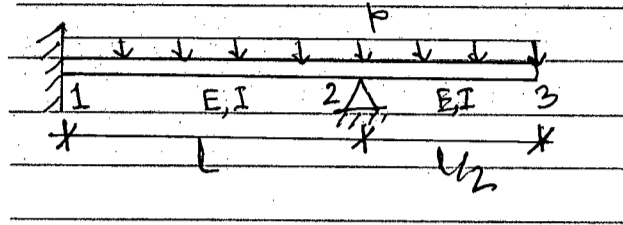

Fig. 4
3. (a) A propped cantilever beam is subjected to a distributed vertical load  $p$  as shown in Fig. 4. Show the work equivalent nodal loads. Ignoring nodal moment at the right end, find the deflection and rotation at node 3. (12)